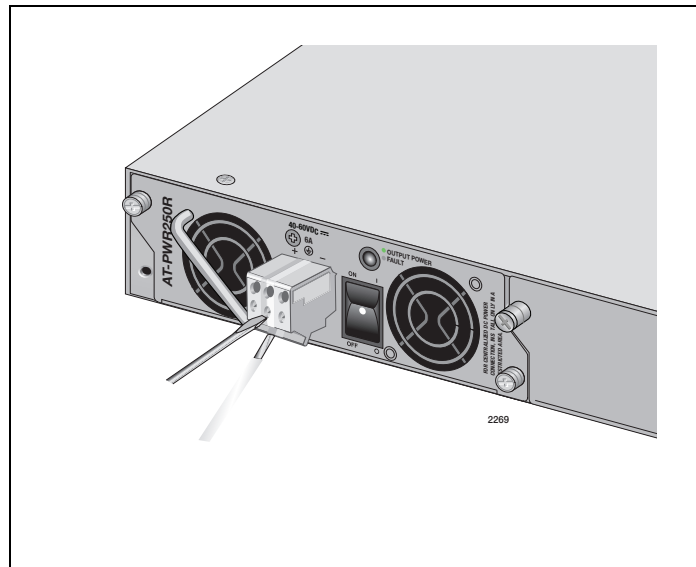

Figure 34. Inserting Wires into a DC Terminal Block
- Insert the power supply ground wire into the middle connector of the DC terminal and tighten the connection with a flathead screwdriver, as shown in Figure 34 on page 73.